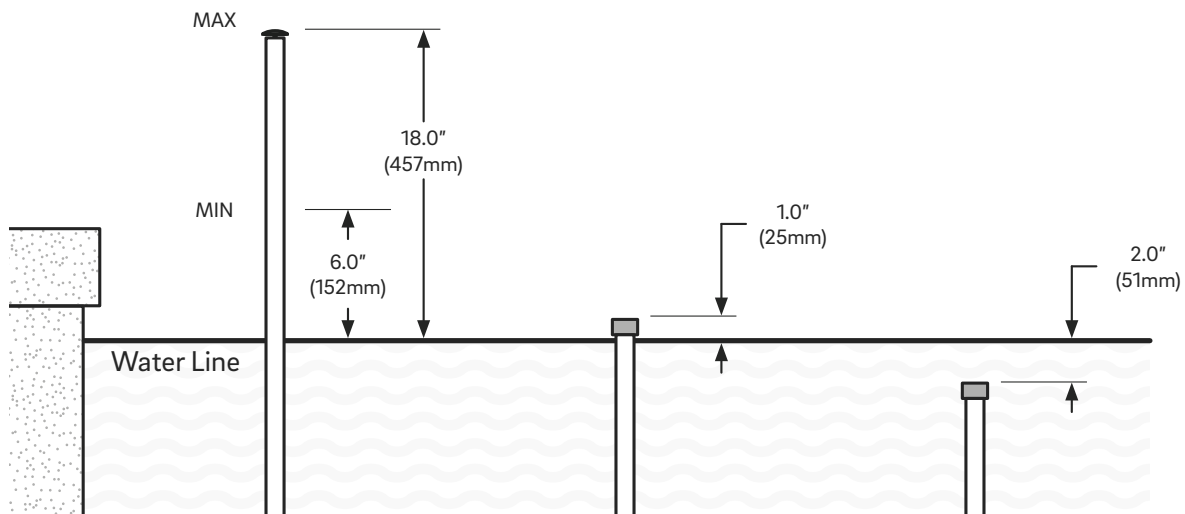
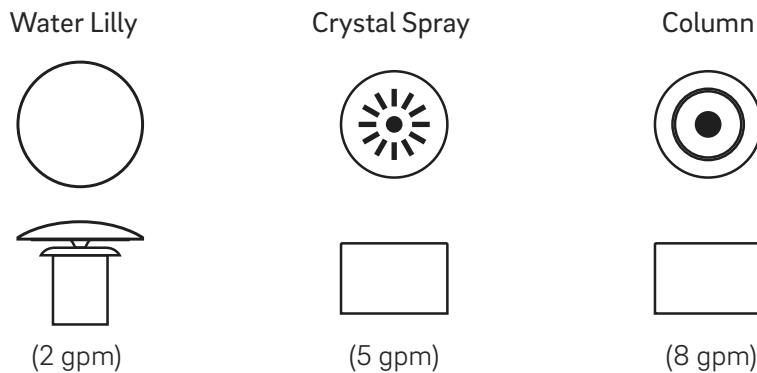

Figure 9
Figure 10
3. Using the diagram (Figure 9), cut the tube so that it will rise to the proper height from the water line (Figure 10) based on the nozzle type being used. All adjustment cuts need to be made at the end where the nozzle will attach.
3. Using the diagram (Figure 9), cut the Secondary Tube so that it will rise 2" below the water line. All adjustment cuts need to be made at the end where the nozzle will attach (Figure 13a).